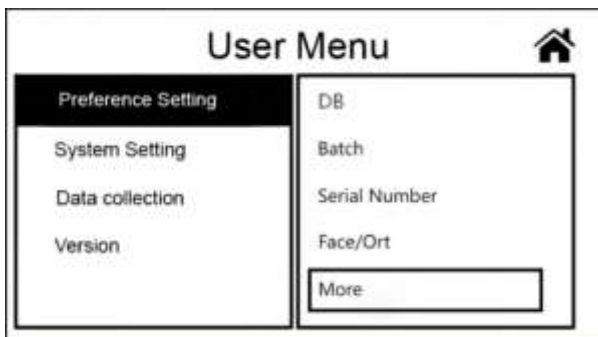
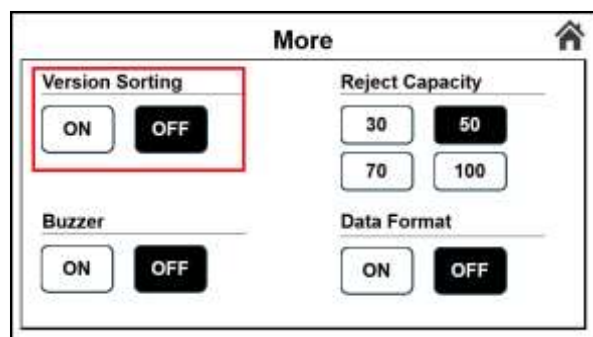

Figure 74
Figure 75
2) Touch the sixth item “More” to enter the interface, as shown in Figure 74, users can set the switch of the version sorting function in this interface, ON means the version sorting function is turned on, OFF means the version sorting function is turned off. This function is only available in the SDC mode. In the version sorting mode, the machine will kick the different version of the banknotes into the reject pocket, and the same version will be put into the stacker. This function is off by default, after selecting it, the shadow will change from gray to blue, as shown in Figure 75, and the machine can save the setting automatically. Touch the “” key on the upper right corner of the screen or press the “” key to return to the previous interface.